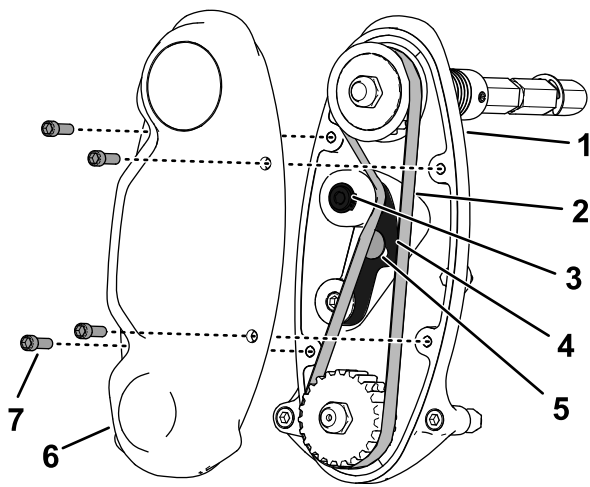

Figure 17
1. Remove the belt cover to expose the belt (Figure 17).
- Loosen the idler-arm bolt and rotate the idler arm (Figure 17) to release tension on the belt.
- Remove the belt (Figure 17).
- Install the belt and tension the belt by applying 6 to 7 N·m (55 to 60 in-lb) to the idler-arm internal hex shown in Figure 17.